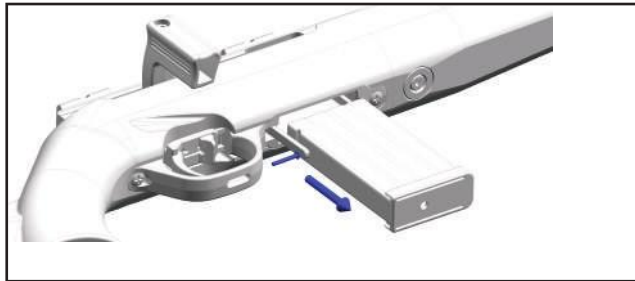

figure 5
2. To release the magazine push the magazine release lever and take out the magazine (figure 5).